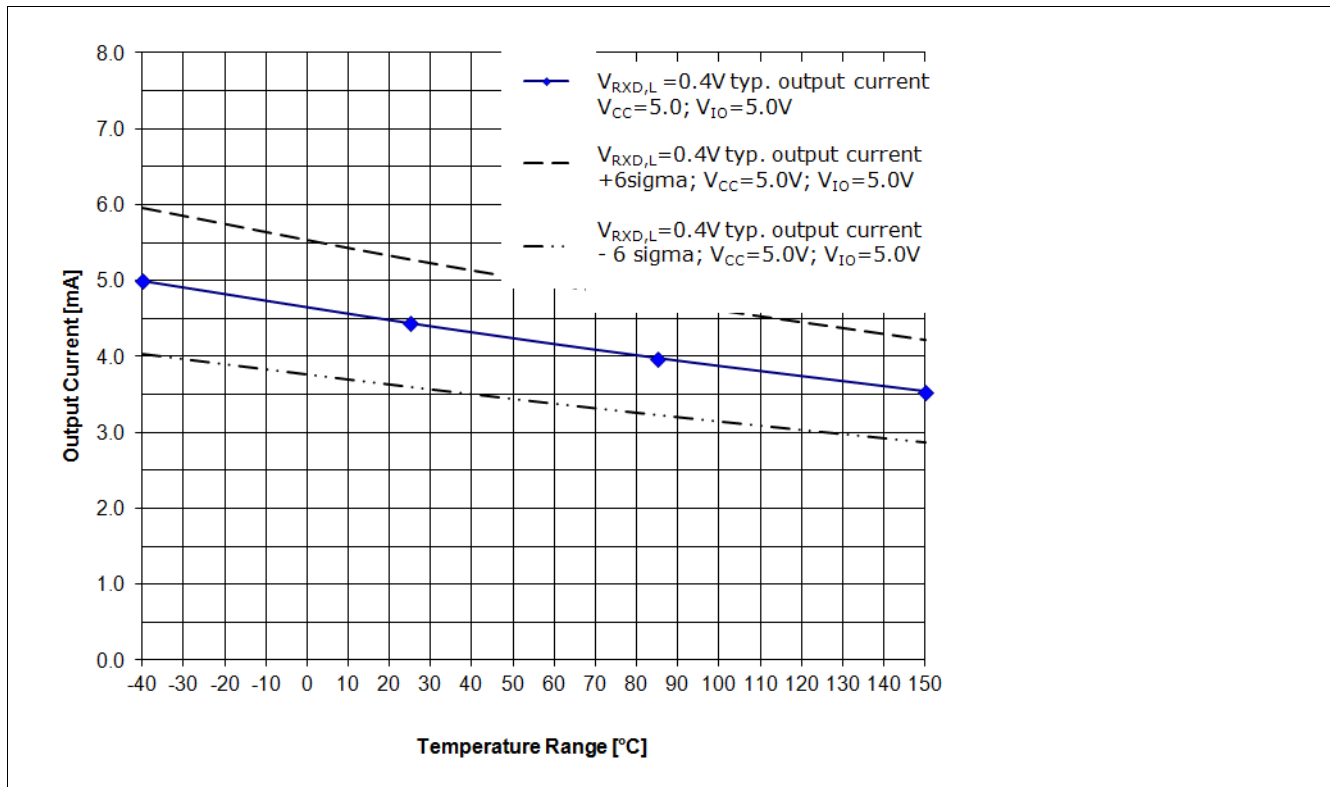
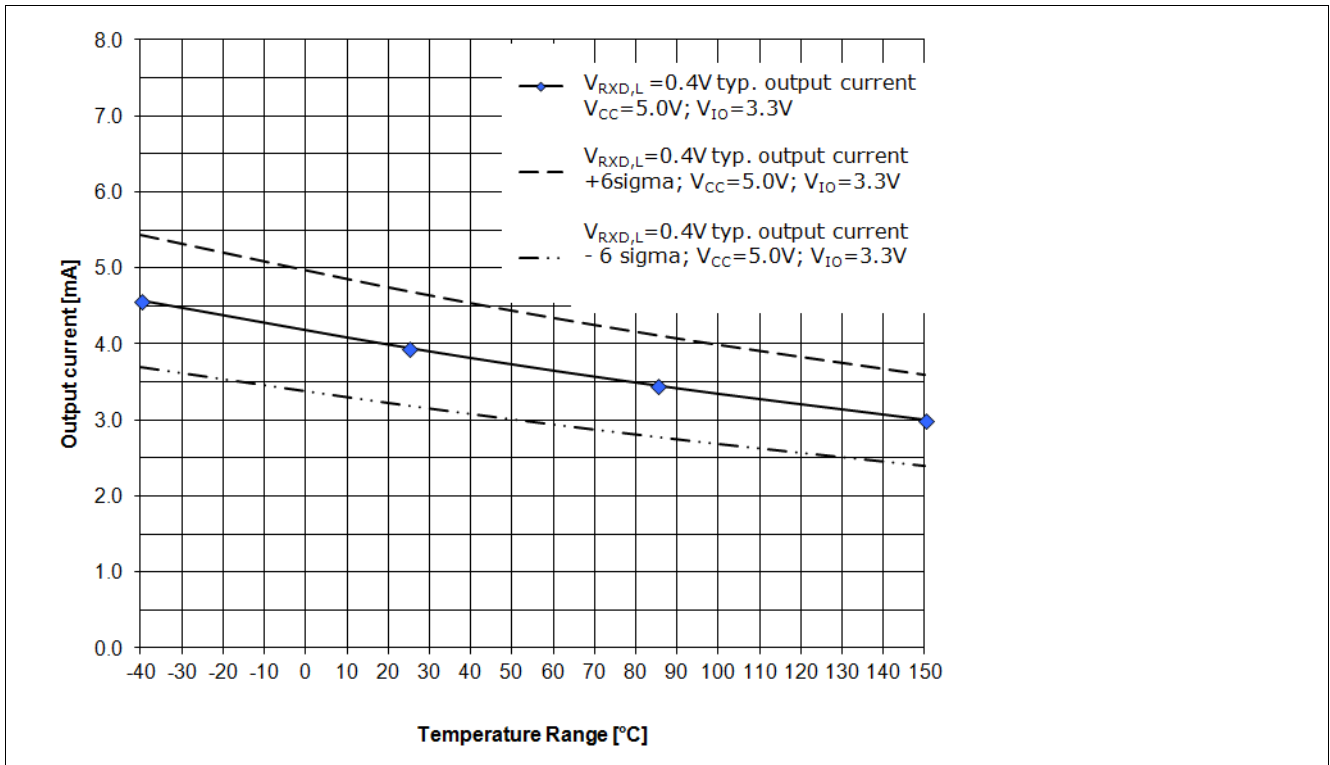

Figure 13 RxD Output driver capability for a logical “Low” signal $V_{\text{RXD,H}}=0.4\text{ V}$, $V_{\text{CC}}=5.0\text{ V}$, $V_{\text{IO}}=5.0\text{ V}^1$
Figure 14 RxD Output driver capability for a logical “Low” signal ($V_{RxD,H}=0.4\text{ V}$, $V_{CC}=5.0\text{ V}$, $V_{IO}=3.3\text{ V}^1$)
The diagram in Figure 13 and the diagram in Figure 14 show the current capability of the RxD output pin depended on the chip temperature T_J . Figure 13 shows the current capability of the RxD output pin at a V_{IO} power supply of 5.0 V and Figure 14 shows the current capability of the RxD output pin at a V_{IO} power supply of 3.3 V.
- The curve “VRxD,H = 0.4 V; **typ. output current**; VCC = 5.0 V; VIO =5.0 V;” displays the typical output current at the RxD output pin of the TLE8250GVIO (see Figure 13).
- The curve “VRxD,H = 0.4 V; **typ. output current + 6 sigma**; VCC = 5.0 V; VIO =5.0 V;” displays the expected maximum value of the output current at the RxD output pin (see Figure 13).
- The curve “VRxD,H = 0.4 V; **typ. output current - 6 sigma**; VCC = 5.0 V; VIO =5.0 V;” displays the expected minimum value of the output current at the RxD output pin (see Figure 13).
- The curve “VRxD,H = 0.4 V; **typ. output current**; VCC = 5.0 V; VIO =3.3 V;” displays the typical output current at the RxD output pin of the TLE8250GVIO (see Figure 14).
- The curve “VRxD,H = 0.4 V; **typ. output current + 6 sigma**; VCC = 5.0 V; VIO =3.3 V;” displays the expected maximum value of the output current at the RxD output pin (see Figure 14).
- The curve “VRxD,H = 0.4 V; **typ. output current - 6 sigma**; VCC = 5.0 V; VIO =3.3 V;” displays the expected minimum value of the output current at the RxD output pin (see Figure 14).